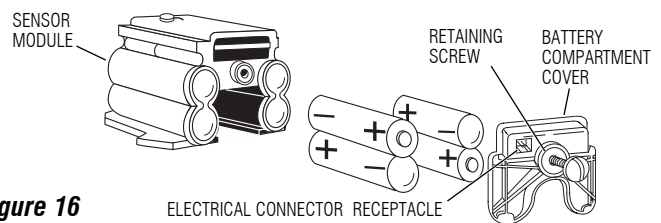

Figure 16
Loosen the two (2) Screws on top of unit. Remove the complete Cover Assembly. Lift the Sensor Module from its Plate. Unplug the Electrical Connector from Battery Compartment Cover. Loosen the Retaining Screw on Battery Compartment Cover and remove Battery Compartment Cover. Install four (4) Alkaline Type AA Batteries **exactly** as illustrated in Figure 16.